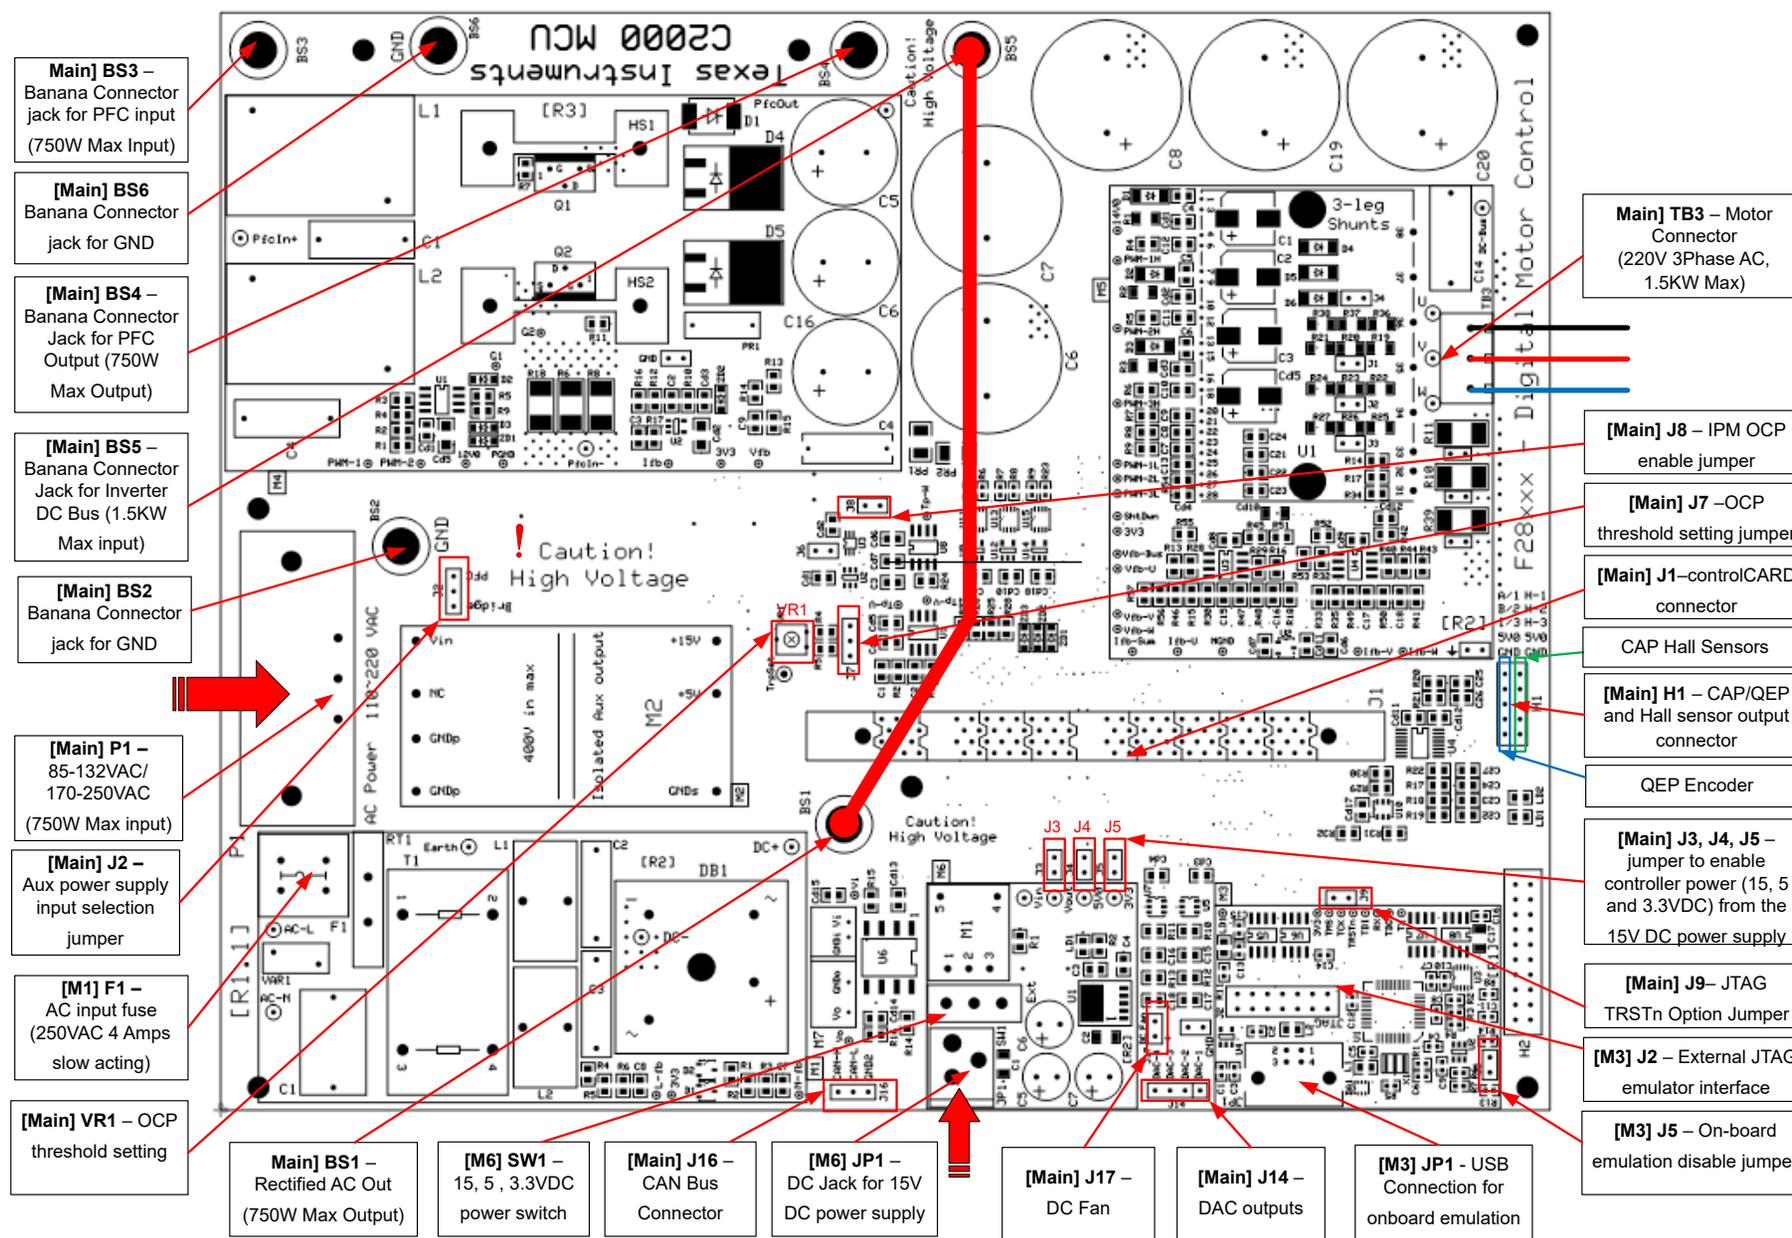

Figure 3-17. TMDSHVMTRINSPIN Kit Jumpers and Connectors Diagram
- Make sure the following jumpers & connector settings are correctly implemented as shown in Figure 3-17.
- Connect the motor, encoder, and Hall sensors to the kits as described in Table 3-2 and shown in Figure 3-17.
Table 3-3 shows the various connections available on the board. The location of these connections on the board are shown in Figure 3-17.